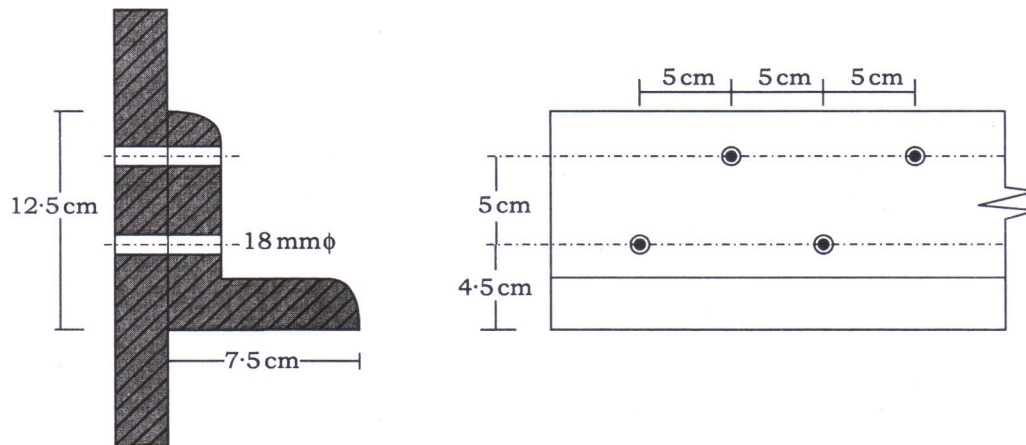

Fig. 1(e)
- (e) An unequal angle ISA 125 mm $\times$ 75 mm is required to carry a tensile load of 160 kN. The angle section is connected to the gusset plate through the longer leg by 18 mm dia bolts as shown in Fig. 1(e) below. Select a suitable thickness for the angle :